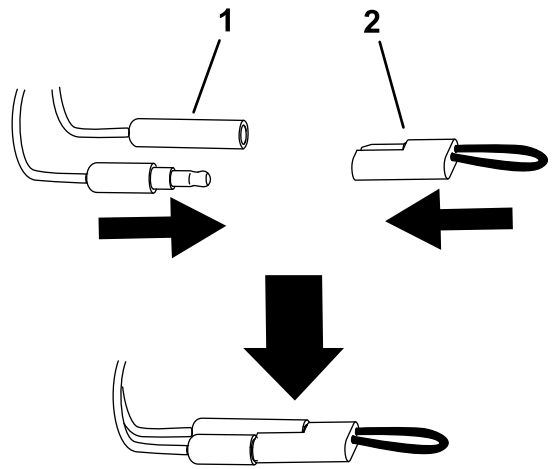

Figure 12
5. Disconnect the calibration connectors and install the plug onto the connectors (Figure 12).